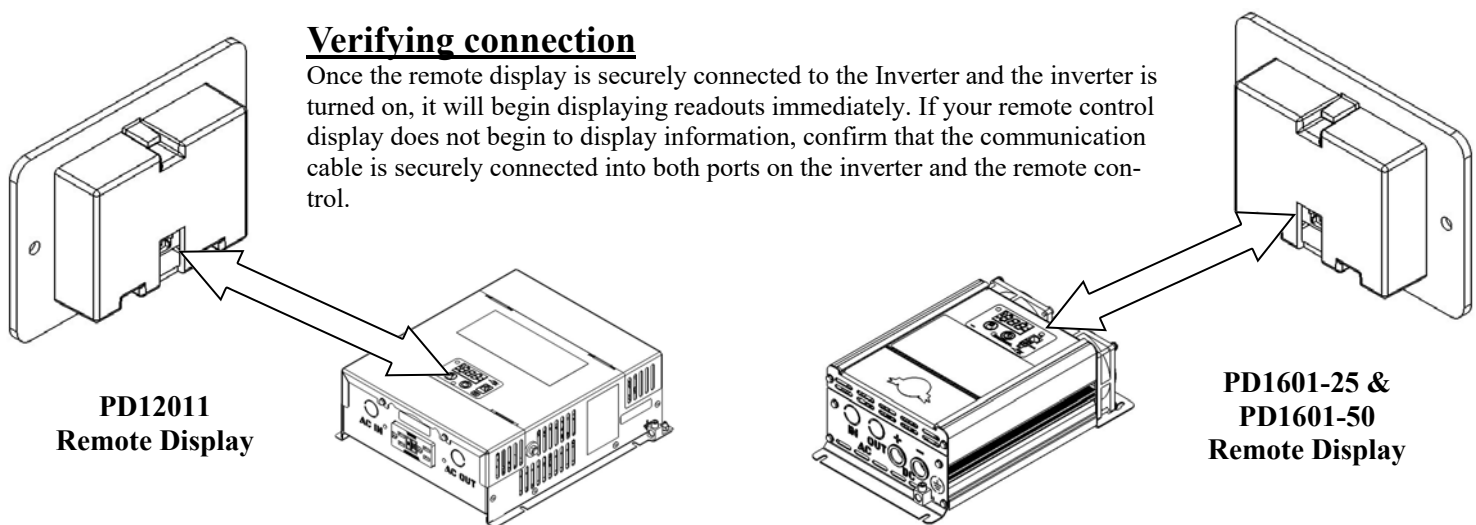

Figure 2 Connecting communication cable
Plug the connector plug into the port on the top of the inverter and the back of the remote control using the supplied communication cable (see Figure 2). Failure to use the supplied communication cable may result in damage to the Remote Display.
7. Connect the communication cable to the RJ9 port on the inverter and the remote control (see Figure 2).